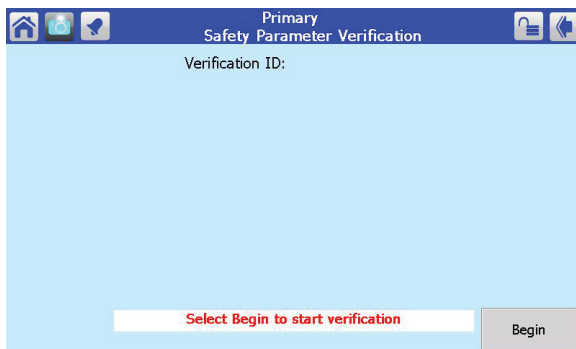

**Fig. 74 – Reset Button on Controller**
9. In a moment, you will need to reset the controller by pressing a button on the front of the unit. See Fig. 74. The controllers for the two boilers are mounted behind the door on the front of the unit.